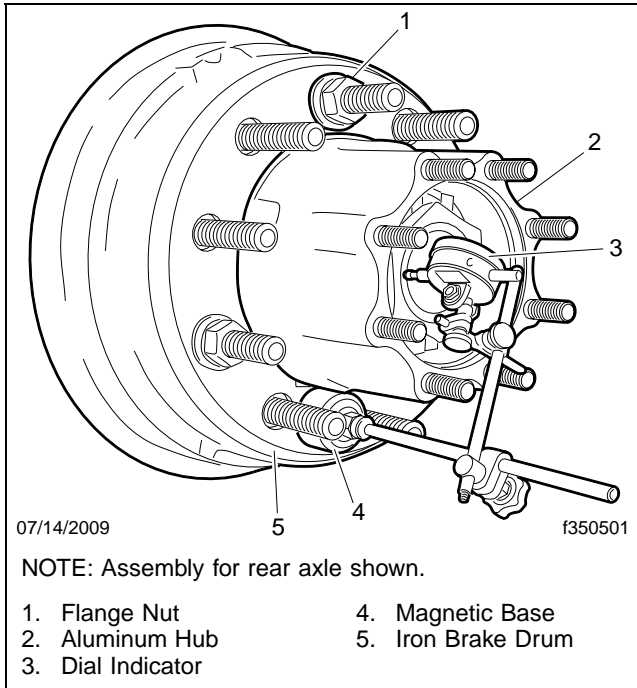

Fig. 30, Dial Indicator Setup, Aluminum Hub with Iron Brake Drum (rear hub shown)
- 4.3 Attach the magnetic base of a dial indicator to the drum (or, on vehicles equipped with iron hubs, the hub). See **Fig. 30**.